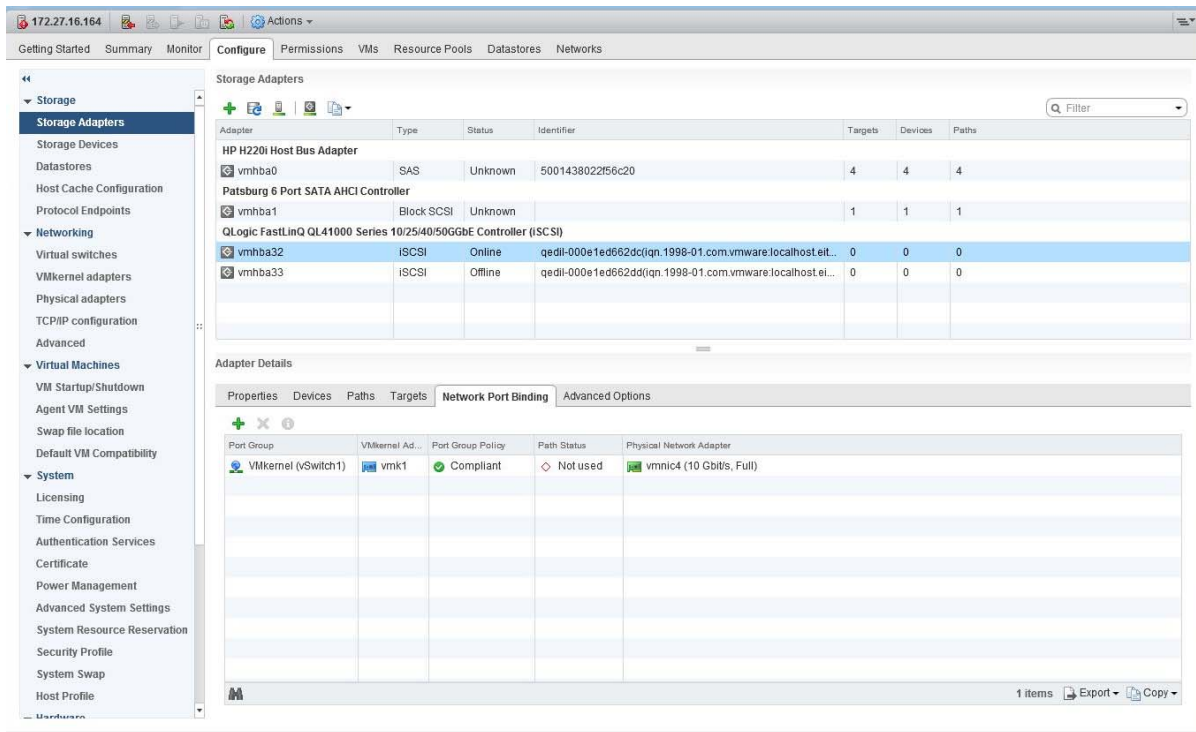

Figure 3-4. Network Port Binding Page
- a. Under **Adapter Details**, click the **Network Port Binding** tab as shown in Figure 3-4.